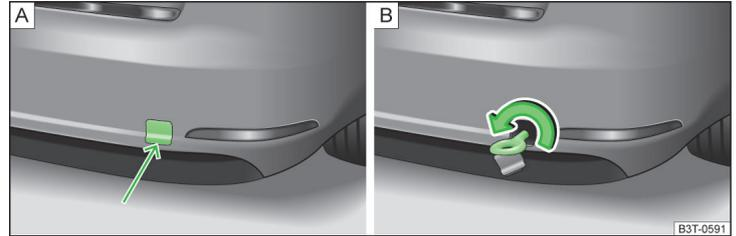

Fig. 189 Removing the cap / installing the towing eye
- Press onto the bottom part of the cap in the rear bumper » Fig. 189 - A and remove it.
- Screw-in the towing eye by turning to the left up to the stop » Fig. 189 - B and tighten as much as possible. For tightening purposes, we recommend, for example, using the wheel wrench, towing eye from another vehicle or a similar object that can be pushed through the eye.